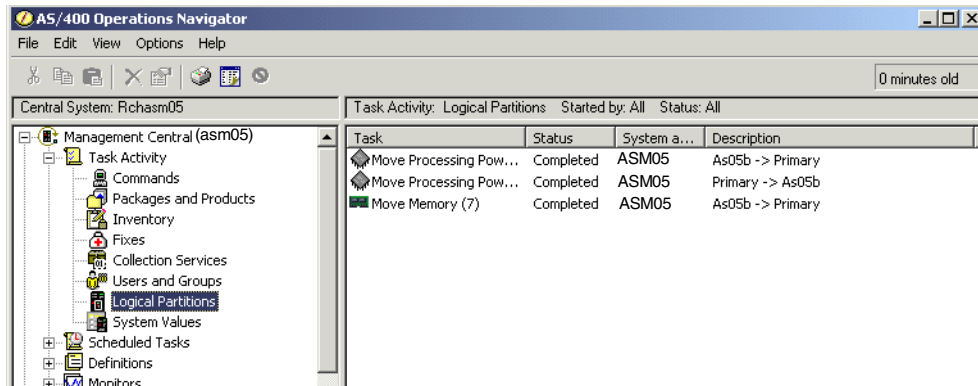

Figure 8-59 Management Central Task Activity
1. From Management Central, select **Task Activity-> Logical Partitions**. See Figure 8-59. In this example, all three tasks have a status of *completed*.
3. The memory move task shown in Figure 8-59 also shows a status of completed. If you click this task to verify, and then right-click and select **Status**, you receive the Move Memory error message as shown in Figure 8-61.